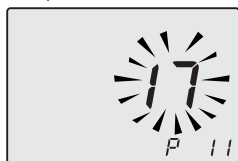

Fig. 8.16
- Scroll the various parameters using keys 16 or 17 until the letters **P11** are displayed on the LCD display, indicating that "parameter 11" (Fig. 8.16) has been activated.